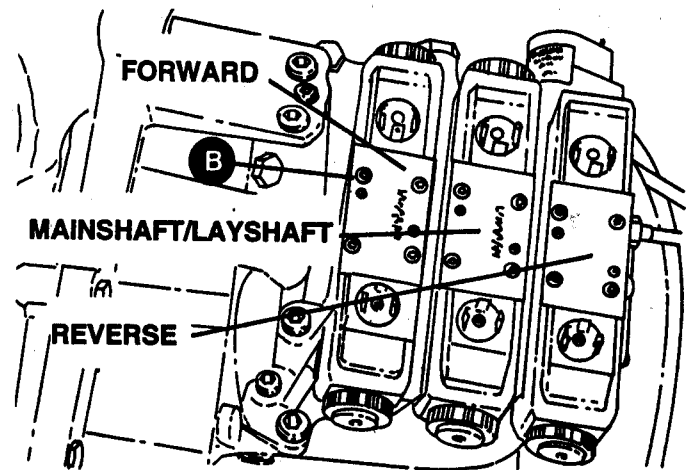

Figure 32.
38. Mount the input (forward) high/low clutch solenoid (Figure 32) onto adapter block. Install capscrews (B) and tighten to a torque of 4 lb-ft. (5 Nm).